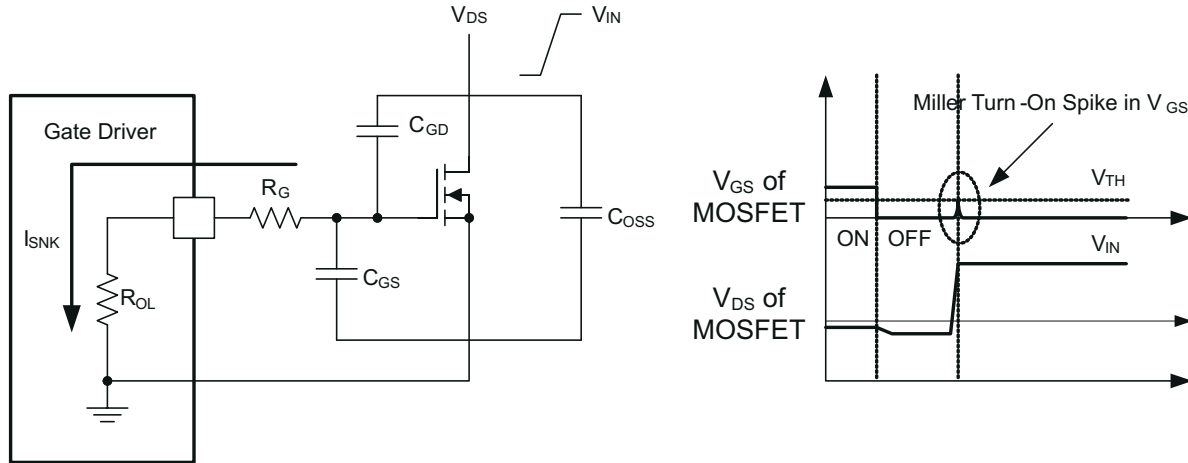

图 7-3. Low Pull-Down Impedance in UCC27614 (Output Stage Mitigates Miller Turnon Effect)
An example of a situation where Miller turnon is a concern is synchronous rectification (SR). In SR application, the  $dV/dt$  occurs on MOSFET drain when the MOSFET is already held in OFF state by the gate driver. The current charging the  $C_{GD}$  Miller capacitance during this high  $dV/dt$  is shunted by the pulldown stage of the driver. If the pulldown impedance is not low enough then a voltage spike can result in the  $V_{GS}$  of the MOSFET, which can result in spurious turnon. This phenomenon is illustrated in 图 7-3.